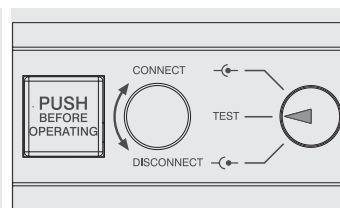

Figure 101
- circuit-breaker in test position (see Figure 101)